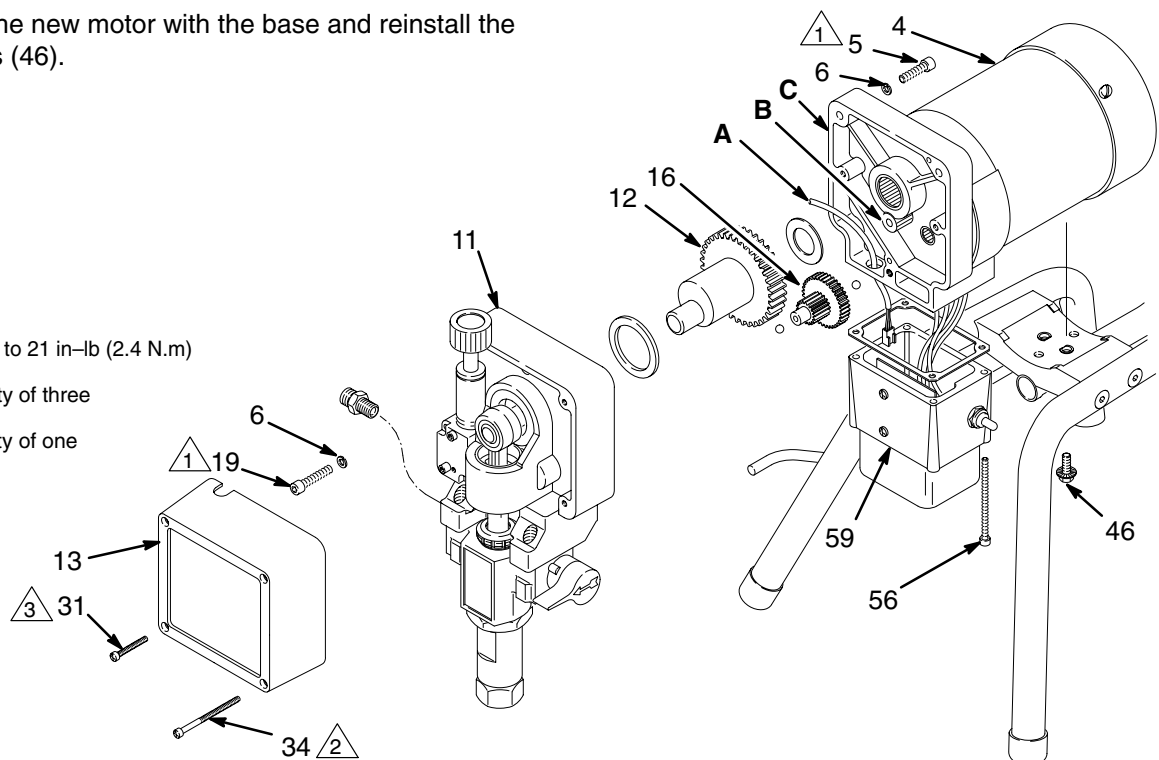

Fig. 22
**NOTE:** See Fig. 22 except where noted.
4. Remove the front cover (13).
5. Turn the displacement pump rod (107) so the pin hole aligns with the bottom drive housing screw (19). See Fig. 21. Remove the three drive housing screws and lockwashers (19,6). Also see Fig. 22.
6. Remove the two motor screws (5) and the lock washers (6).
7. Tap the lower rear of the drive housing (11) with a plastic mallet to loosen the motor. Pull the drive housing straight off the motor while guiding the harness (A) from the motor. Do not allow the gear (16) to fall. Read the CAUTION on page 25.
8. Remove the two screws (46) and lift the motor off the base (66).
9. Align the new motor with the base and reinstall the screws (46).